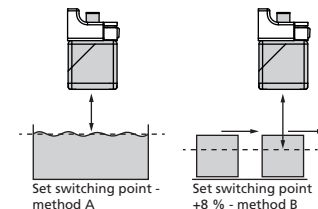

Fig. 10: Setting the switching point for different directions of movement of the object
- If the object to be scanned moves into the detection area from the side, the »Set switching point +8 % – method B« Teach-in procedure should be used. In this way the switching distance is set 8 % further than the actual measured distance to the object. This ensures a reliable switching behavior even if the height of the objects varies slightly, see Fig. 10.